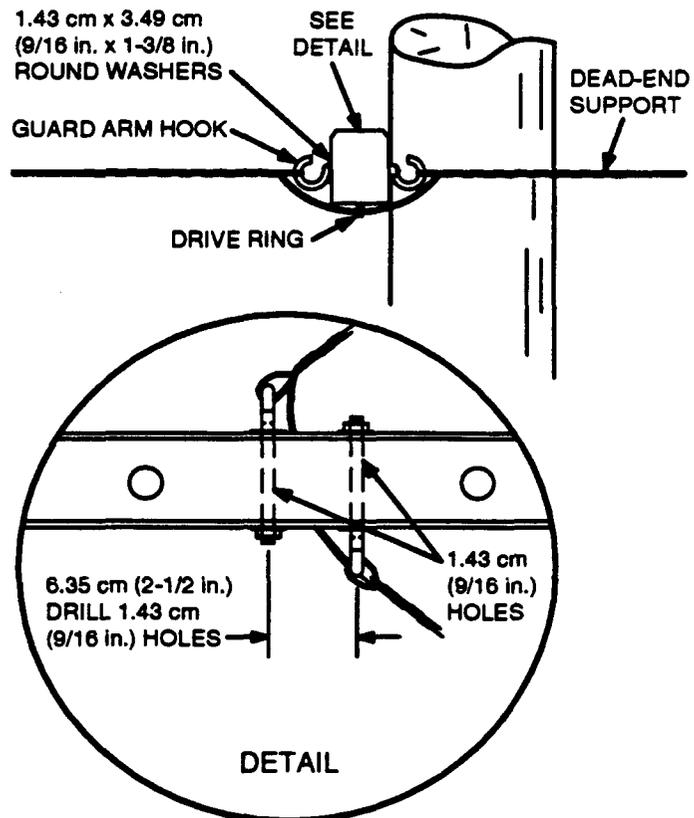

Figure 10. Attaching to Crossarm on Pole with 3.05 to 15.25 meters (10- to 50-Foot) Pull
7.04 Corners where the pull is more than 3.05 meters (10 feet) and less than 15.25 meters (50 feet) can be made on the crossarms by using guard arm hooks as shown in Figure 10. At corners with over 15.25 meters (50 feet) of pull, the wire should be dead ended in the usual manner. When the corner is made with a double arm, attach one guard arm hook in each crossarm to hold the dead-end support.